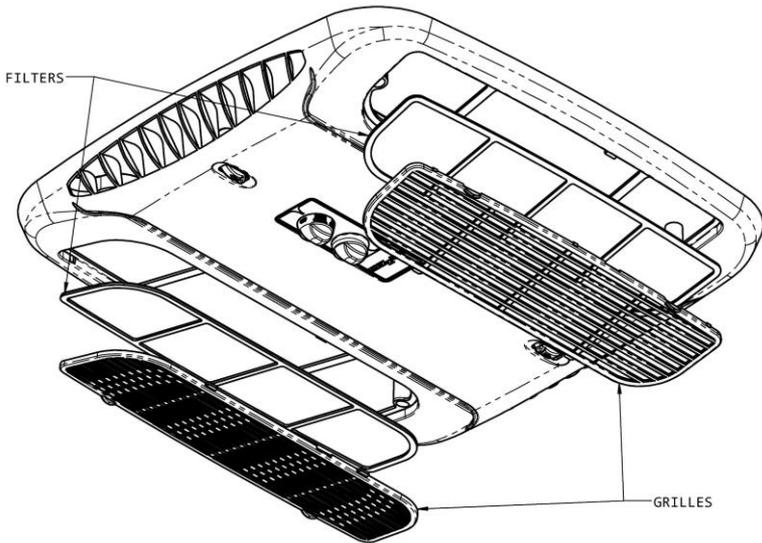

Figure 2
- Re-install the filters and grilles in the ceiling assembly as shown in Figure 2, page 10.